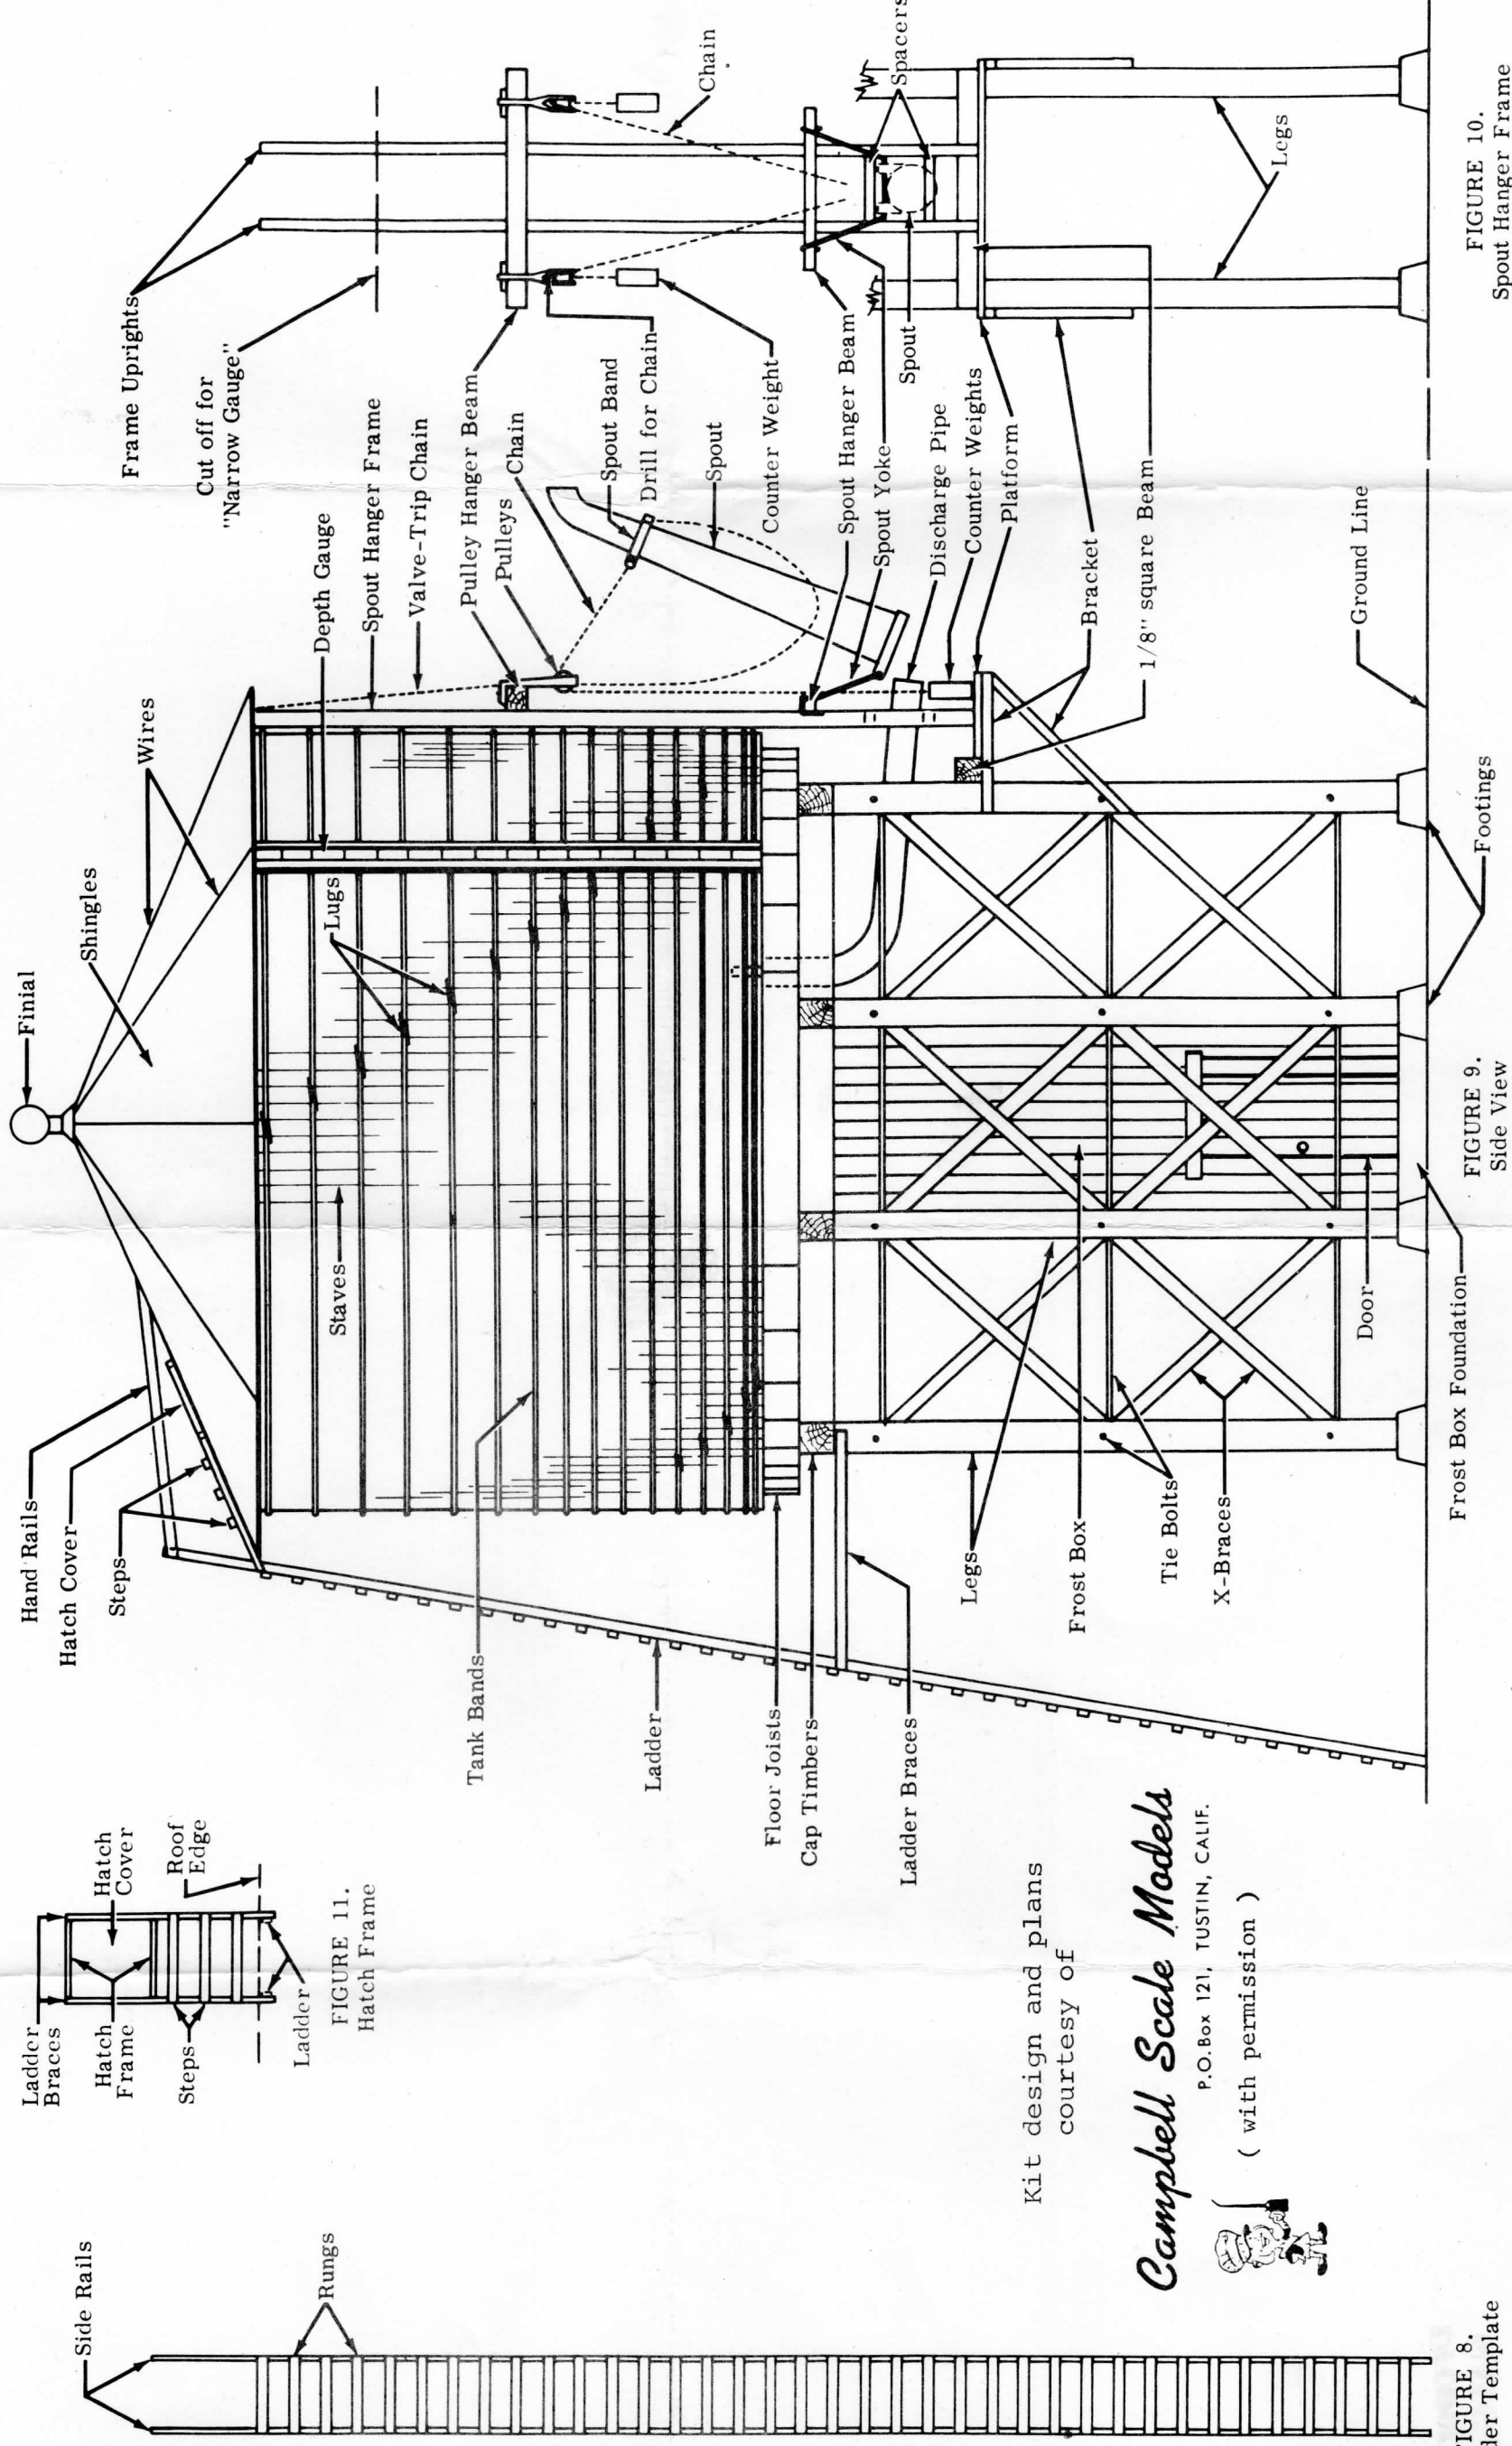
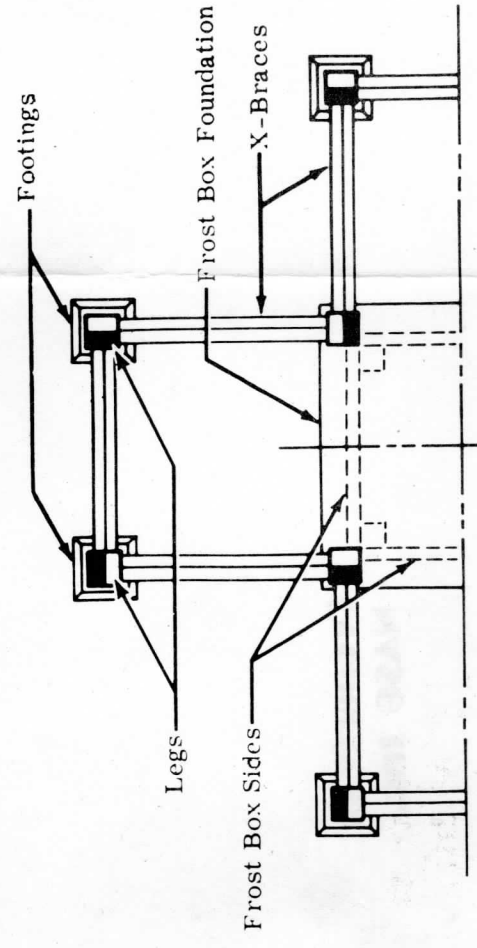

FIGURE 9.
FIGURE 4.
8. The tower frames should now be ready to assemble. Note in Fig. 4 how these fit together. In this drawing the half-legs colored black are the two sides of one frame, and those left white are the next frame. By gluing these half-legs together, and to the un-glued ends of the diagonals, the complete tower framing is erected.
9. The four sides of the frost box are assembled by gluing them to 1/8" x 1/8" wood inside corner posts. Note that the outside corners of the frost box will fit between the inner tower legs as shown in Figs. 4 and 5. The frost box sides are the same height as the legs, but if you are building the low tower, they must be cut down to the same height as the legs. The frost box door frame is cut from scale 2 x 4's and glued to one of the sides as shown in Fig. 9. The door knob is the head of a small pin.
18. Wire is furnished for the steel tie rods in the tower frames. In the tall tower there are three rods in each frame, and in the low tower there are two. In each case one rod goes through at each end of the X-braces, as shown in Fig. 9. Also note that the rods cross each other in each leg. Drill #72 holes for the rods, making sure they will pass each other where they cross. Placement for the rods can be measured from the drawing in Fig. 9. Trim the wire just long enough so that about 1/32" will extend out on each end, beyond the legs. Insert the rods and put a small dab of glue on each end.
22. The small platform or ledge below the spout should be built and installed now. Its floor is a piece of the Gang Planking cut for you. The brackets must be cut from the 1/16" x 1/16" wood strips. The platform must be carefully positioned as shown in Figs. 9 & 10 for the regular height tower. For the lower "narrow gauge" tower see Step 24. Lift the spout hanger from the template and glue it in place on the tank, resting the bottom ends on the platform.
23. Form the discharge pipe from the length of insulated copper wire furnished. Cut away the insulation at one end for about 1/4". Form the bend over the drawing of the pipe in Fig. 9, and cut it to length as indicated. Bring the exposed end of the wire in between the spacers on the spout hanger, and glue it into the hole you drilled in the bottom of the tank in Step 17. Let it rest on the lower spacer of the spout hanger.
26. Glue the 48 tank band lugs in place. Be careful when removing the flash (if any) not to remove part of the detail. The lugs are in three slanting rows as partly indicated in Fig. 9. They are to be staggered diagonally around the tank at about 2 stave intervals. Start the first row two or three staves outside the spout hanger. The second row should be started about 18 staves beyond the end of the first row, and the third row about the same distance beyond the second. It would be quite proper to vary this spacing to suit your taste, or to match photos or drawings of prototype water tanks. You will probably want to omit the lug that would come beneath the depth gauge.
29. Paint the spout casting, and if necessary, drill out the holes for the yoke, which is to be formed of the soft copper wire furnished. With the wire in the holes, form the yoke as in Figs. 9 & 10. Cut a piece of the chain 6 1/2" long, and tie the center link to the spout band with a piece of fine thread. Bend the ends of the yoke around the spout hanger beam as shown in Figs. 9 & 10. Pass the ends of the chain through the holes in the pulleys, and glue the weights on the ends of the chain. If necessary, adjust the length of the chain so the weights just clear the platform when the spout is in the up position. Put a tiny dab of glue to hold the chain in the pulleys, with the spout in the up position so it will clear all locos and cars that will pass. Glue the valve-trip chain with one end under the eaves over the spout, and looped as shown, and the other end fastened to the spout band.
The hatch is Gang Planking the same width as the ladder. Cut and glue 2 x 4's on edge to the top and bottom of the hatch cover, and two more on the sides as ladder braces, with the tops flush, and bottom ends out beyond the roof edge to support the ladder. Glue three steps as shown. The hand rails are 2 x 4's as in Fig. 9, but may be omitted if you prefer.